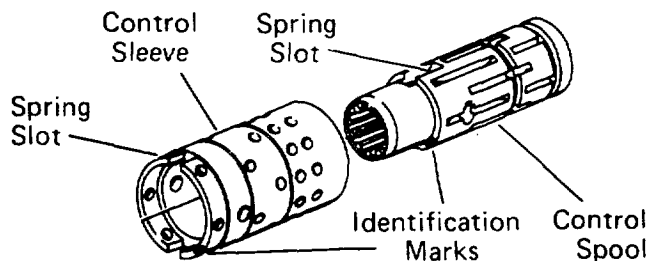

Figure 13
6. Assemble spool and sleeve carefully so that the spring slots line up at the same end. Rotate spool while sliding parts together. Some spool and sleeve sets have identification marks, align these marks as shown in Fig. 13. Test for free rotation. Spool should rotate smoothly in sleeve with finger tip force applied at splined end.